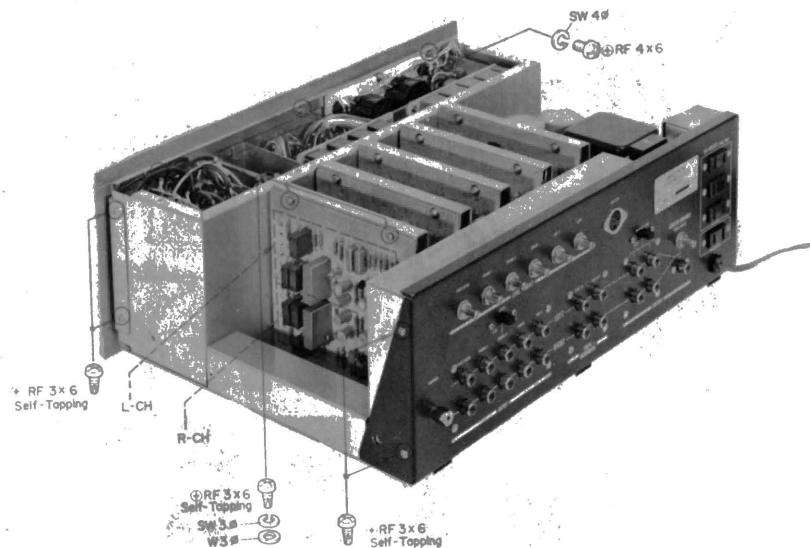

Fig. 2-2. Removal of Front-Panel Ass'y
- b. Remove the two self-tapping screws (+RF3 ϕ × 6) on each side of the chassis. See Fig. 2-2.
- Remove the three Phillips-Head screws (+RF4φ × 6) behind the top edge of the Front Panel Assembly. See Fig. 2-2.